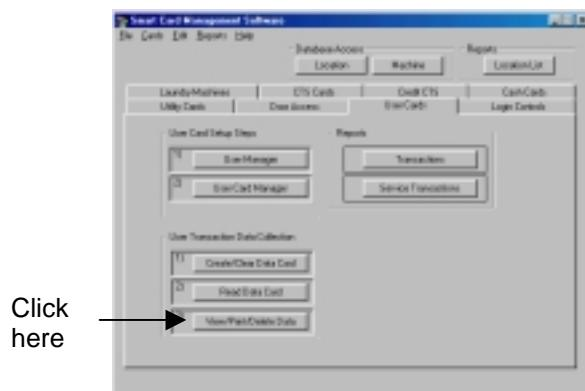

Figure 6.19 The Data Collected Window
1. Click the View/Print/Delete button (Figure 6.19).